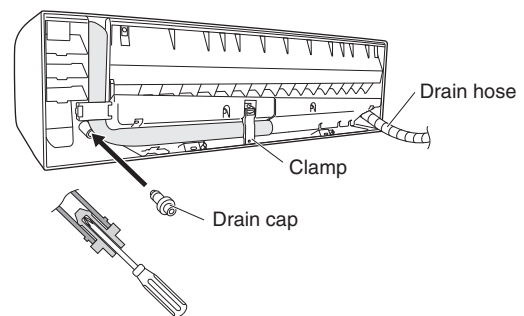

Fig. 1-83
- (d) Reattach the drain hose to the left side and the drain cap to the right side. (Fig. 1-83)
- (3) Install the indoor unit on the rear panel.
- (4) Connect the tubing and wiring led inside from outdoors.
- (5) After completing a leak test, bundle the tubing together with armoring tape and store it inside the tubing storage area at the back of the indoor unit and hold it with clamps. (Figs. 1-83 and 1-85)